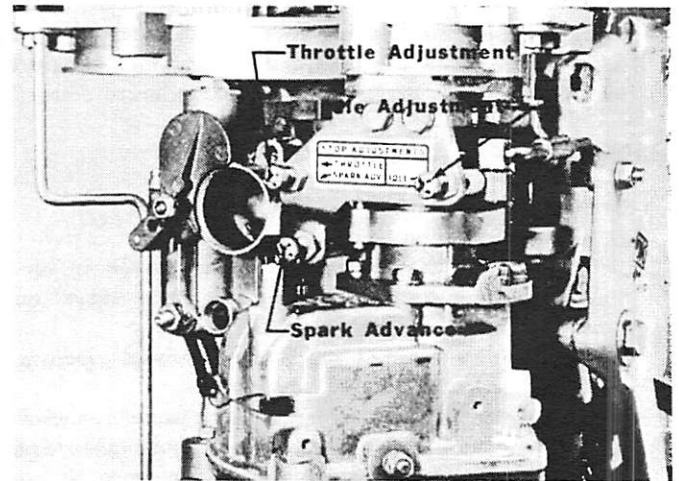

Figure 2. Magneto Stop Bracket Adjustment
11. Hold magneto in this position and adjust spark advance screw to just touch pilot assembly and tighten lock nut. (Figure 2)
3. Set minimum idle limit screw (Phillips head screw on magneto adaptor toward outside) to obtain 525 RPM idle. (Figure 2) Set "in" for increased RPM, "out" for decreased RPM.